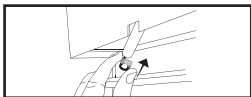

Figure 2.1; Slide Hook Sleeve onto Stem
If your blind has an open hook for the original tilt mechanism as opposed to a closed eyelet, slide the plastic SECURITY SLEEVE (L) over the tilt hook to cover the hook's gap. Leave enough room for the E-Wand (A) ATTACHMENT HOOK (a) to securely connect [Fig. 2.1].